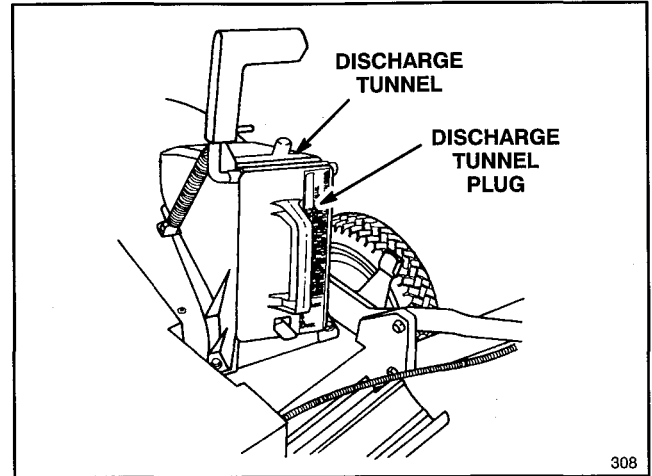

Figure 35
2. **Rear Bagging Kit, Model No. 59174**—Install discharge tunnel and rear mounting grass bag to convert the Recycler® II Super Pro® mower to a rear bagging mower (Fig. 35). Includes discharge tunnel plug.